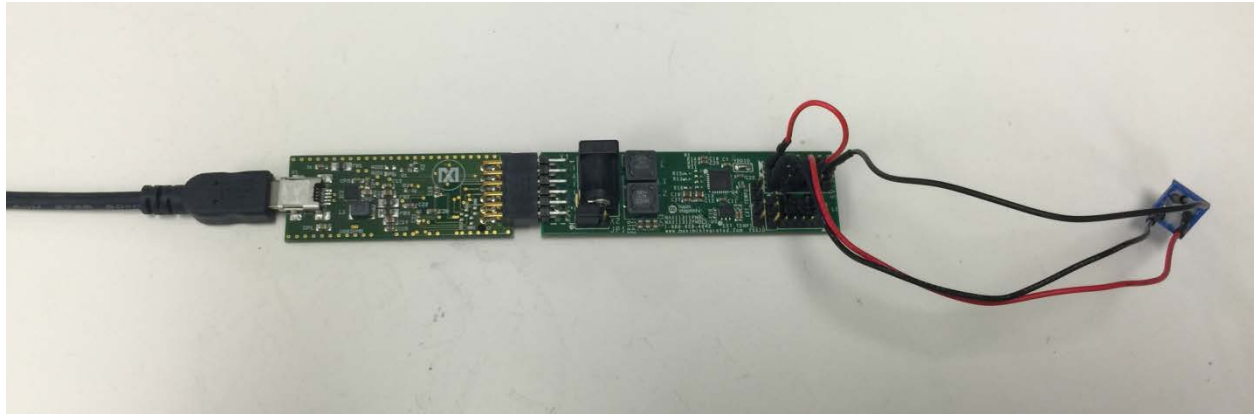

Figure 32. A potentiometer is connected to ports 0, 2, and GND.
1. Connect a potentiometer cable assembly to Port 0 (black jumper wire), Port 2 (red jumper wire), and GND (black jumper wire). Connect Port 3 to Port 7 (red jumper wire) as shown in **Figure 32**.